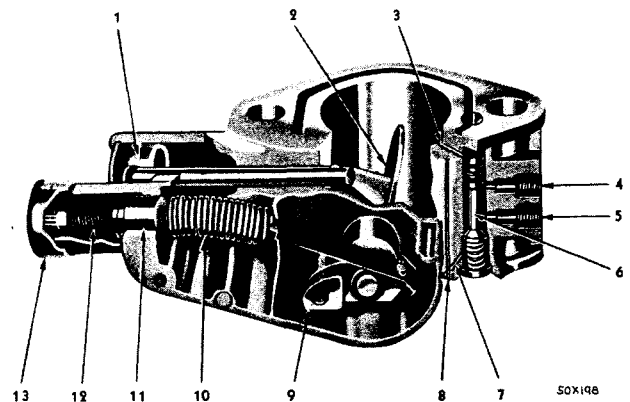

Fig. 14 — Typical King-Seeley Governor (Sectional View)
With the velocity type governor, as shown in Figure 14, the engine speed is governed by the throttle valve which is closed by the force of the velocity of the fuel-air mixture as it passes through the governor. An accurately calibrated spring system attached to the governor throttle shaft opposes the velocity force and controls the position of the throttle valve and the maximum speed of the engine. When in proper operating condition, the governor does not affect engine performance below the speed at which it begins to control, and does not affect fuel consumption.
When a more sensitive regulation is desired, or if the governor is too sensitive and inclined to surge at full throttle, correct as follows by means of the calibrating nut (11). (Fig. 14.)
Remove seal and adjusting screw cap (13). (Fig. 14.) Remove cover screw and force out the drive screw as indicated on Figure 17. Do not use a screw driver or similar tool, as it will result in damage to the housing or cover. When the drive screw is out far enough so that side cutting pliers can be applied under the screw head, turn the screw out counter-clockwise.